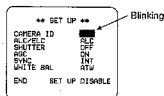

Fig. 16
- By pressing the Set Switch (11) for more than 1 second, the "SET UP" menu is displayed on the monitor screen as shown in Fig. 16.
- Display the Setup menu as shown in Fig. 16.
- Move the cursor to the "ALC/ELC" mode position and select either the "ALC" or "ELC" mode by using the Left Switch (<) (9) or Right Switch (>) (8).
- Move the cursor to the SHUTTER mode position and select the electronic shutter speed by pressing the Left Switch (<) (9) and the Right Switch (>) (8).
- Move the cursor to the AGC mode position and select either ON or OFF mode by using the Left Switch (<) (9) and Right Switch (>) (8).
- Move the cursor to the SYNC mode position and select either the line-lock (LL) or internal (INT) mode by pressing the Left Switch (<) (9) and the Right Switch (>) (8).